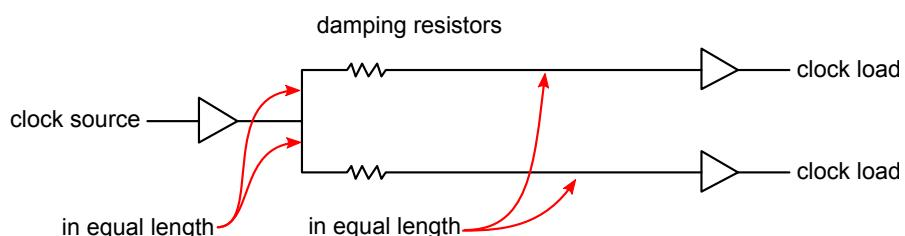

Figure 2-8: Series termination for multiple clock loads
- Series terminations (damping resistors) are needed for all clock signals (typically $0\ \Omega$ to $47\ \Omega$). When two loads are driven by one clock signal, the series termination layout is shown in Figure 2-8. When multiple loads (more than two) are applied, a clock buffer solution is preferred.